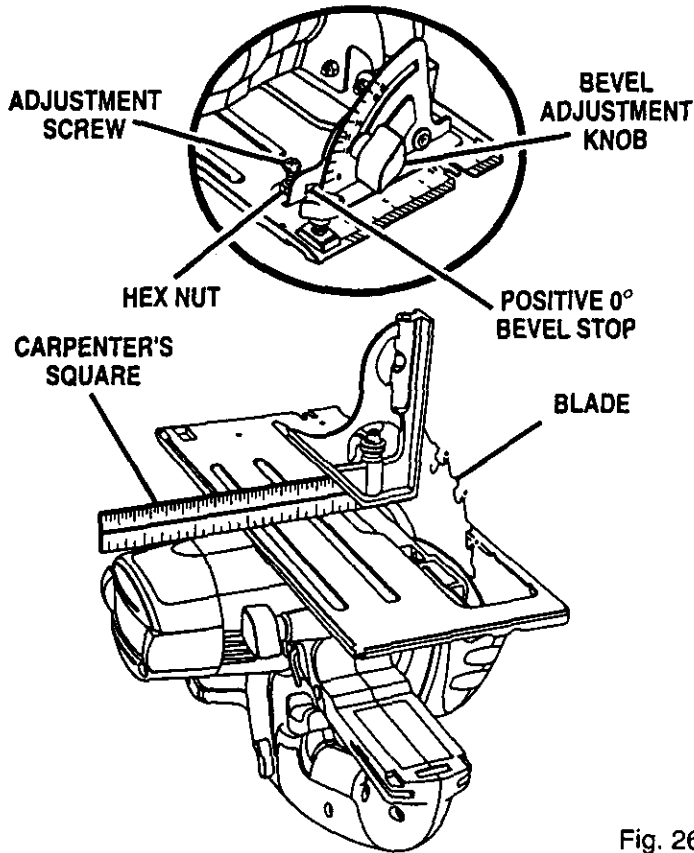

Fig. 26
See Figure 26.
- Place your saw in an upside down position on workbench. See Figure 26.